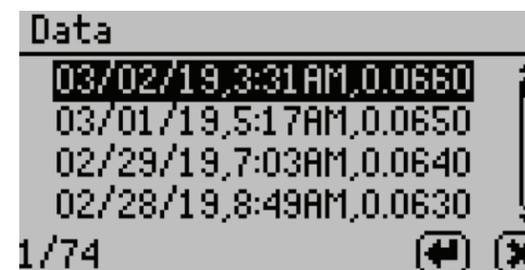

Figure 44 View data summary
- **View.** Select to view stored measurements with the most recent measurements at the top of the table (Figure 44). Use UP and DOWN to move through the stored data. Use LEFT and RIGHT to page quickly through the data.